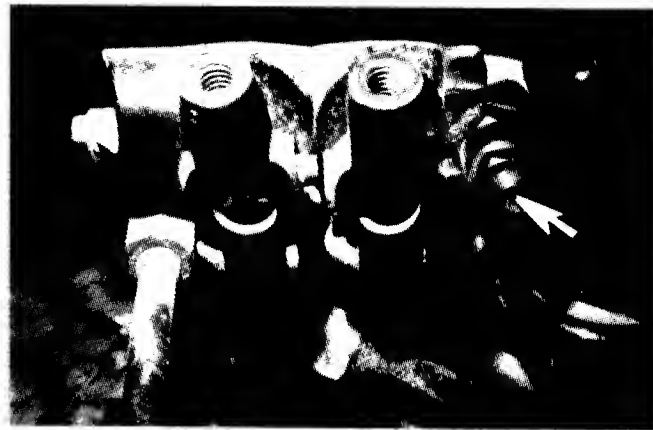

FIG. 5.2--CONTROL VALVE PRESSURE ADJUSTER.
6. Pressure adjustment is made on the adjuster of the control valve as shown in figure 5.2. Loosen the jam-nut and turn setscrew in clockwise direction to increase pressure or in opposite direction to decrease the pressure. When pressure is in the correct range, hold setscrew and tighten the jam-nut to lock in the new setting. Stop engine and remove Tee fitting and reconnect hose to charge pump.